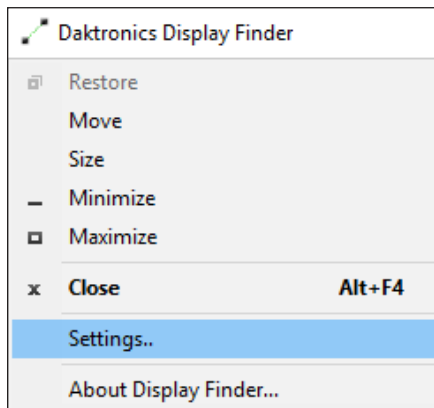

Figure 4: Display Finder Settings
2. Click **Settings**. Refer to **Figure 4**.